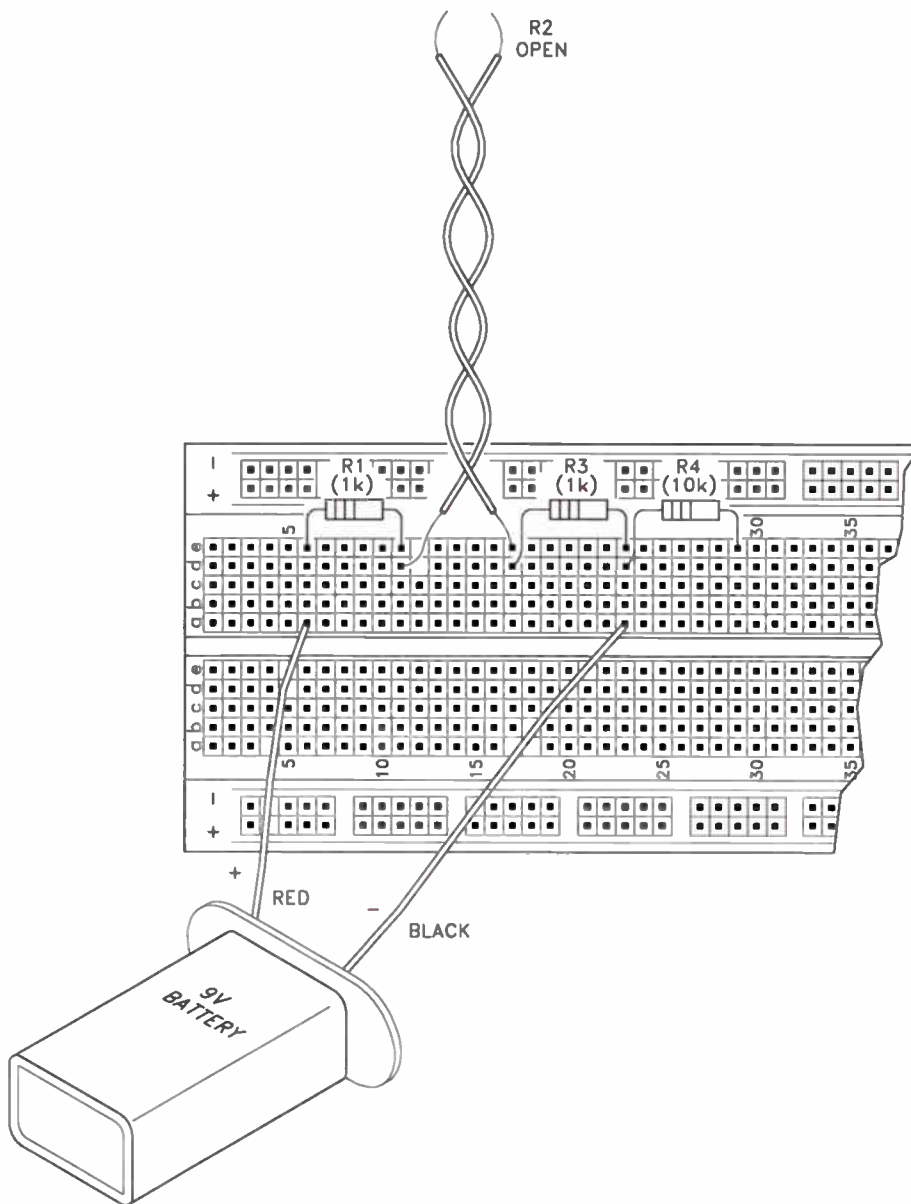

Figure 2-4. A circuit using the simulated “open” resistor.
Step 5. With the twisted pair still connected to the breadboard socket, untwist the top portion as shown in Figure 2-4. The twisted pair now simulates a burned-out resistor. Again, measure the voltage across R1, R2, and R3. Record your readings in Table 2-1 under R2 Open.